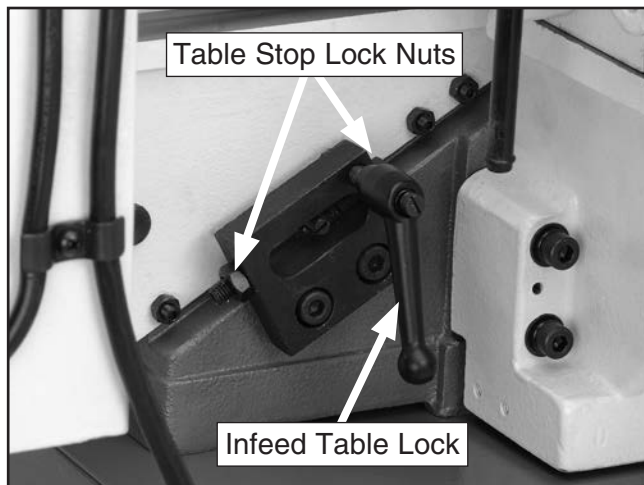

Figure 38. Infeed table lock.
1. Loosen the infeed table lock in **Figure 38**.